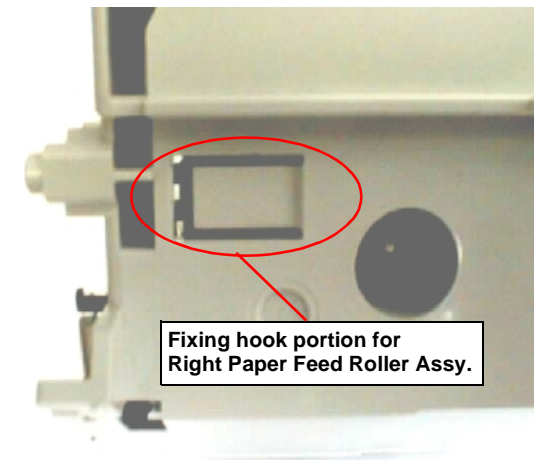

Figure 4-32. Fixing the Right Paper Feed Roller Assy.
- Make sure that the right Paper Feed Roller Assembly is fixed with the hook on the ASF unit. Check it from the back side of the ASF Frame. Refer to Figure 4-32.